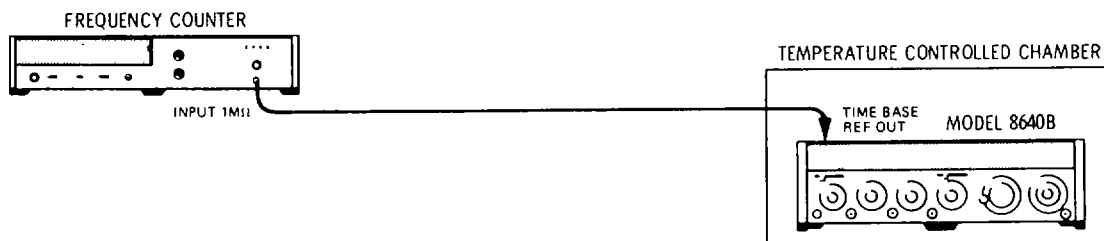

Figure 4-29. Internal Reference Accuracy Test Setup
1. Connect equipment as shown in Figure 4-29. Check that TIME BASE REF INT/EXT switch on the rear panel is set to INT.